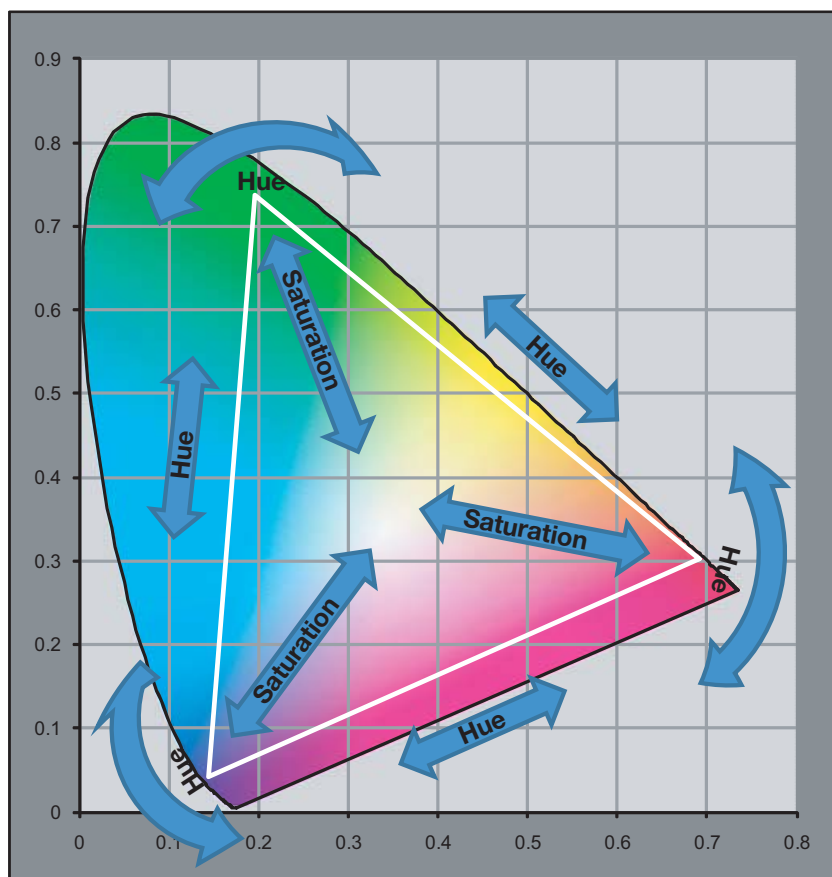

Figure 4-8. Effect of PCE Hue and Saturation Controls
Each control operates only on the color specified. Surrounding colors are linearly interpolated based on their distance from each of these colors. In the CIE 1931 Yxy coordinate system (see Figure 4-8), Hue rotates the color coordinates around the white point, Saturation adjusts the coordinate's distance from white and Level adjusts the luminance (Y) of the color relative to white.